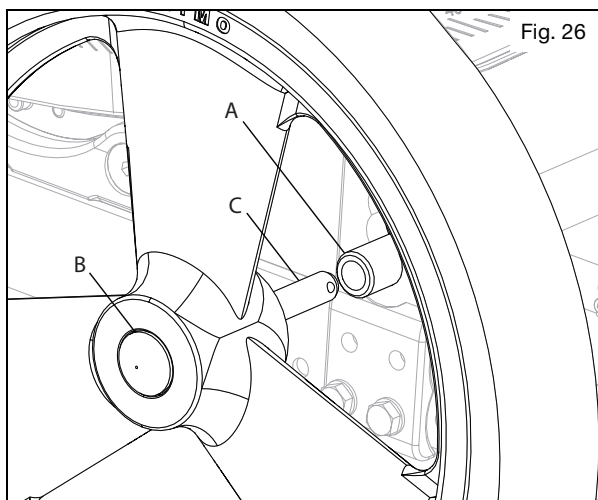

Fig. 26
- a. Push in the quick release button (Fig. 26:B) on the axle (Fig. 26:C) to allow the locking balls to retract. Make note of the difference between the extended and depressed position of the axle release button and its effect on the locking balls on the other end of the axle.
- c. Push on the quick release button again and slide the axle into the axle sleeve (Fig. 26:A).